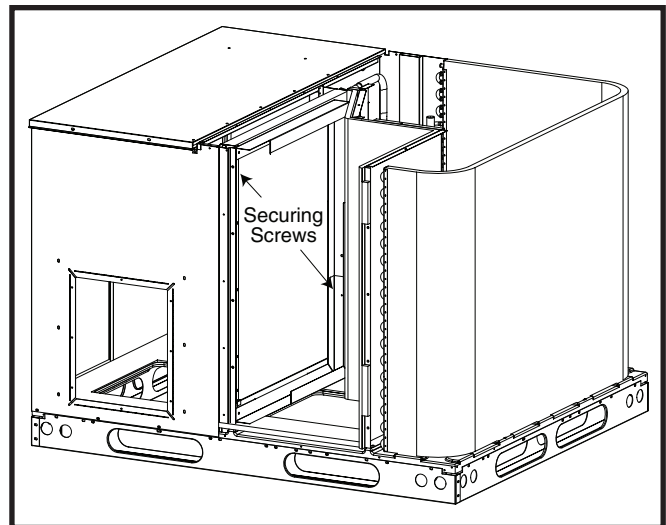

Figure 5. Internal Filter Rack Location
3. Remove (1) screw securing the assembly to the coil located on the left leg of the rack. **NOTE:** The assembly can now be easily collapsed and removed from the unit. See Figure 5 \(page 10\) for filter rack securing screw locations.